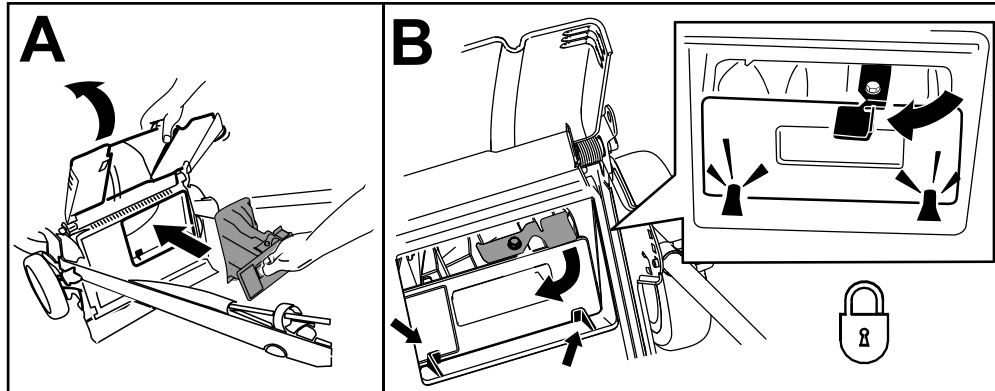

Figure 22
**Important:** Ensure that the rear plug is locked in place. To lock the plug, raise the rear deflector (A of Figure 22), firmly push the plug in until it snaps into place behind the tabs, and rotate the lever on the plug to the left (B of Figure 22).